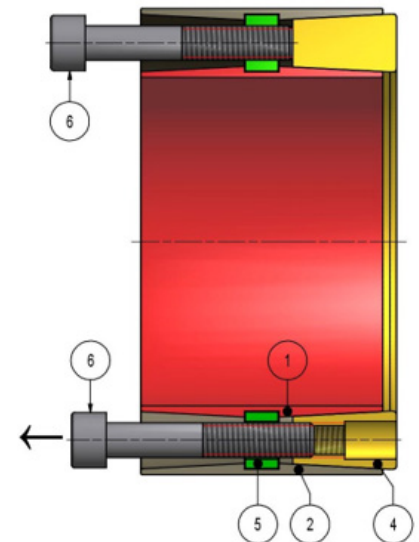

Fig. 7
4. Insert two/three screws into corresponding threaded holes in the rear thrust ring. Hold the head of these screws and pull them out in order to remove inner ring, outer ring, central ring, rear thrust ring all together from hub bore (fig. 7).